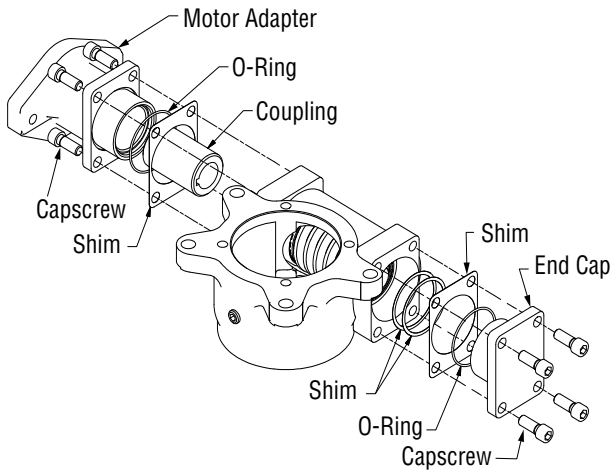

Figure 5-17, Worm Cap/Motor Adapter
10. Remove the housing cover and motor adapter. Make note of any installed shims. Capscrews are installed with Loctite, so use a long-handled wrench to break them loose. Use a large screwdriver and hammer to separate the worm cap from the housing. Note any installed shims. (Figure 5-17)